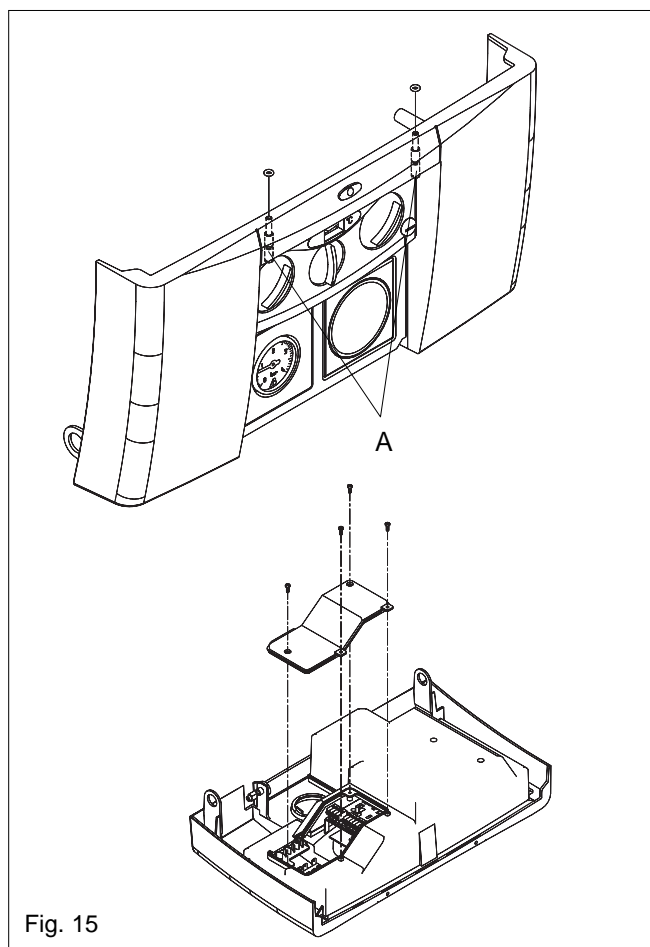

Fig. 15
- Locate and unscrew the 2 screws that secure the controls fascia to the appliance casing (see fig 15).
The appliance terminal block is located on the left side of the control fascia (see fig. 15). Locate and remove the screws securing the terminal block cover.